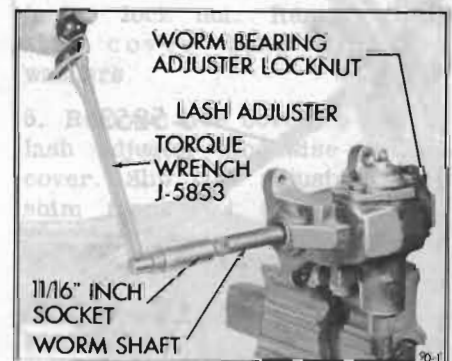

Figure 90-1—Checking Adjustments on Bench
1. Attach Torque Wrench J-5853 to worm shaft and turn shaft to extreme right or left position. See Figure 90-1.
7. If necessary adjust worm bearing preload by loosening worm bearing adjuster lock nut using a drift (see Figure 90-1). Turn bearing adjuster as required to bring torque between 2 and 7 pound inches. Tighten lock nut, then recheck preload.